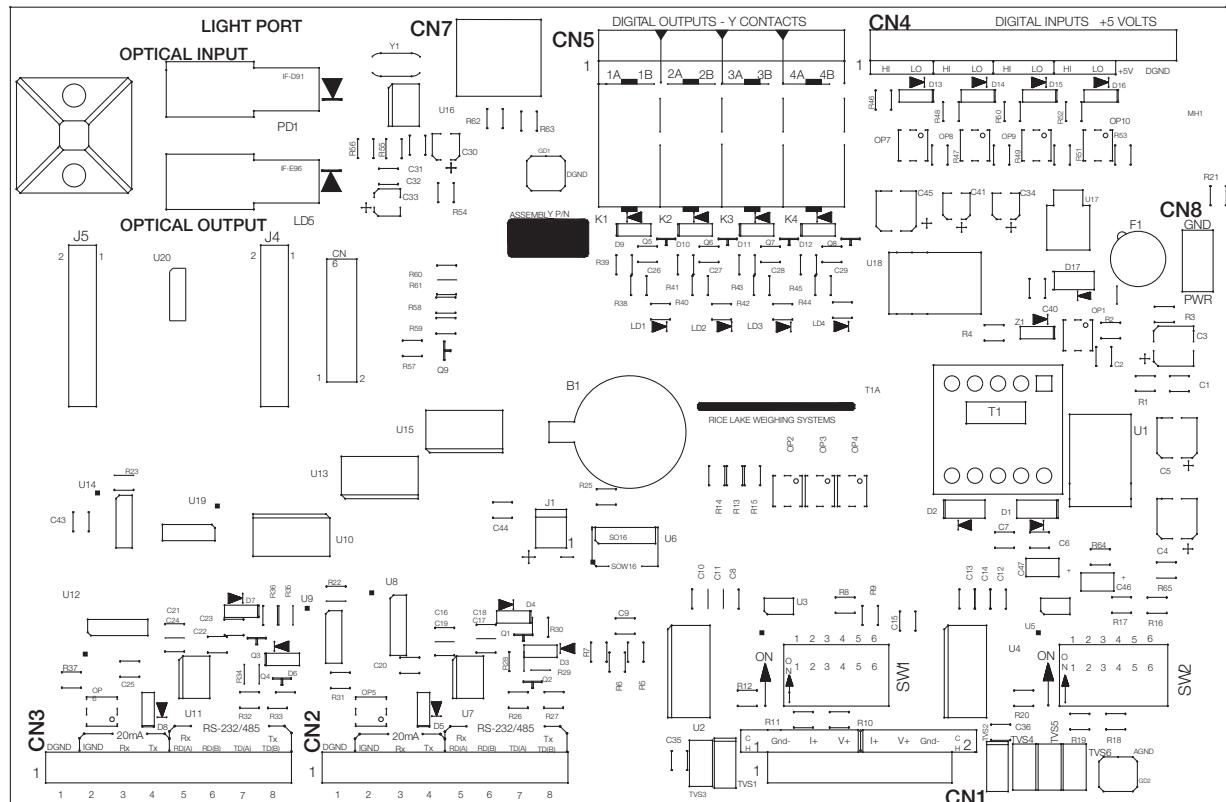

Figure 8-1. I/O Module Board
The following section describes the wiring of various ports of the 320IS. Table 8-1 below lists the connectors of the main board of the 320IS. See Figure 8-1 for port locations.
The 320IS is equipped with duplex fiber optic ports for communicating with other devices located in the safe or hazardous area. It provides electrical isolation and eliminates the use of I/O barriers commonly used in intrinsically safe systems. The fiber optic wires are plastic; no polishing or further preparation is required. See Figure 8-1 on page 48 for the location of the fiber optic ports on the 320IS main board.
4. Secure duplex fiber optic cable to wire tie mounting button located on I/O Module circuit board (see Figure 8-1 on page 48) using wire ties included in parts kit.
The 320IS uses two 16-bit isolated analog output channels with 4-20mA and voltage (0-5V/±5V/0-10V/±10V) outputs supplied from a DC/DC converter. The output voltage ranges are DIP-switch selectable (see Figure 8-1 on page 48). Analog output configuration is done via setup mode in the indicator used with the 320IS (see the applicable indicator installation manual).
The analog output circuitry consists of two identical channels that can be assigned to gross or net weight values. The analog outputs can be configured to operate as either current or voltage outputs. The voltage output range is selected by configuring DIP switches SW1 (1-6) for channel 1 and SW2 (1-6) for channel 2 (see Figure 8-1 on page 48).
The analog output port is powered by an isolated DC-DC converter. The outputs available on connector CN1 are listed in Table 8-8 below. See Figure 8-1 on page 48 for the location of CN1 and DIP switches.
Digital inputs are available on connector CN4 (see Figure 8-1 on page 48). All inputs are individually isolated via optocouplers. Table 8-9 outlines the pin connections for CN4.